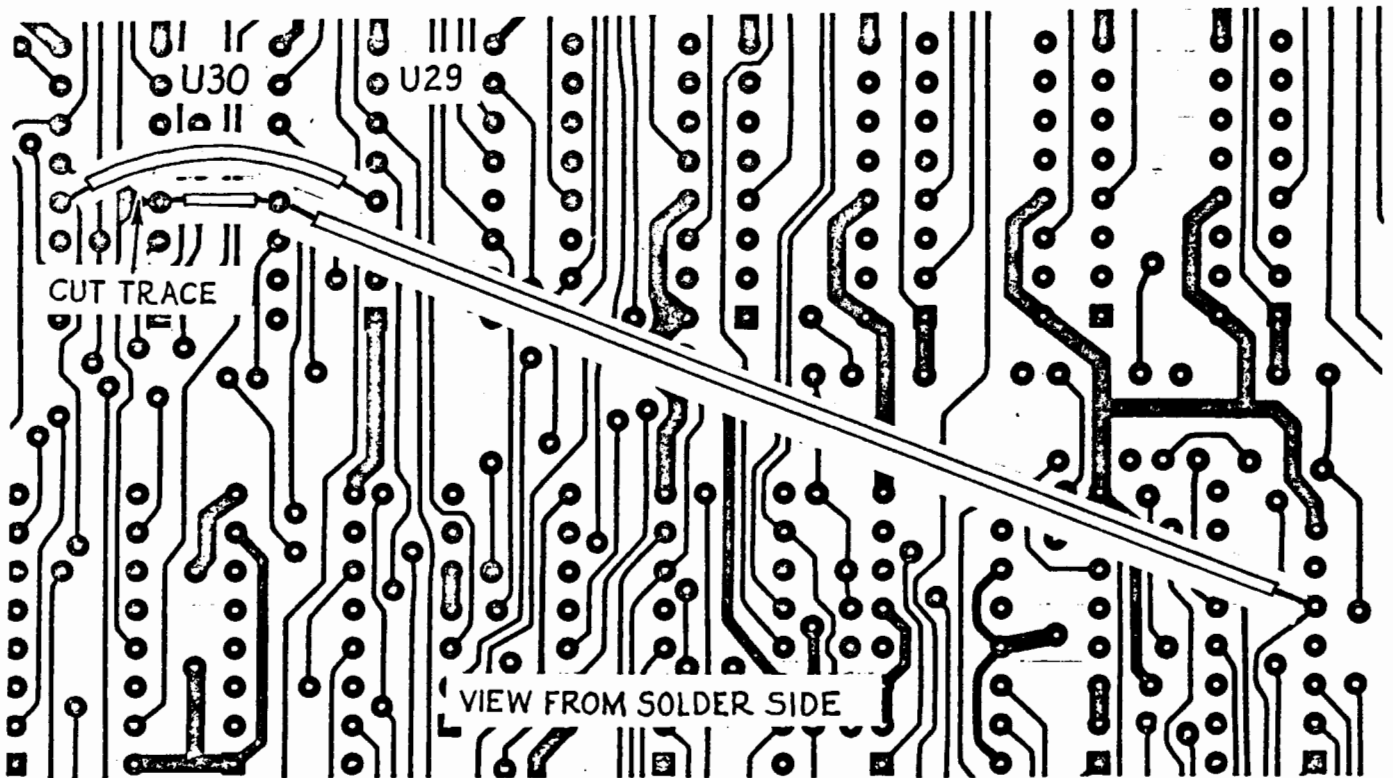

Figure 4
2) On a "REV F" 16KRA or "REV B" 32KRA, cut the trace on the solder side that goes to U30-pin 4, adjacent to pin 4's pad, as shown in Figure 4. On a "REV D" or "REV E" 16KRA there are two traces to pin 4, instead of the triangle of copper shown. Cut both traces, and solder a jumper on the solder side between U50-pin 13 and U10-pin 13.
3) Using 30 AWG solid insulated wire, install the three jumpers on the solder side shown in Figure 4. They connect: